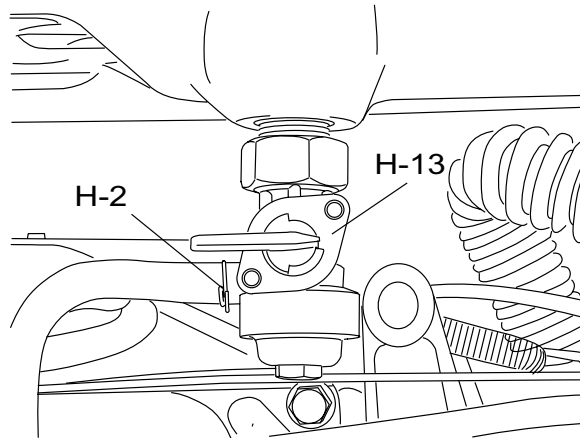

Figure 18: Fuel Shutoff Valve
- (1) Turn the fuel valve to OFF.
- (2) Remove (turn clockwise) the sediment cup and O-ring. Wash both parts in nonflammable or high flash point solvent.
- (3) Wipe the sediment cup and O-ring dry, then reinstall.
- (4) Set the fuel shutoff valve (Figure 18) to ON. Check for leaks.